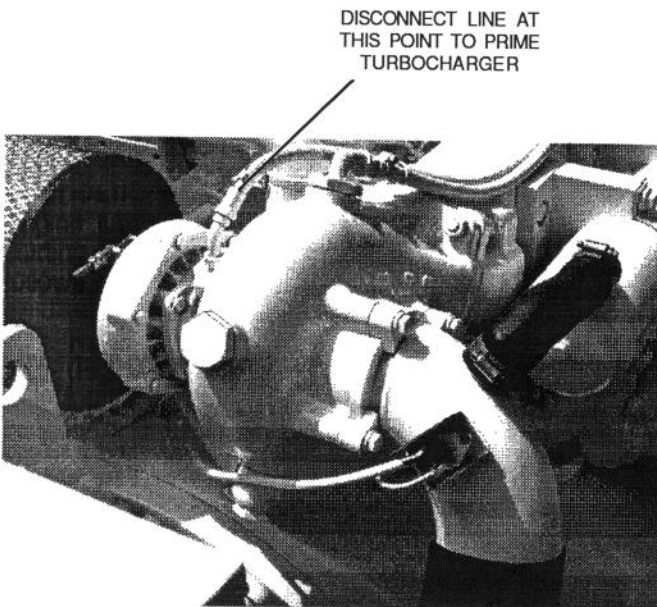

FIGURE 3-9. PRIMING TURBOCHARGER
1. Remove oil inlet line from turbocharger housing (Figure 3-9), fill bearing housing with clean engine lubricating oil; replace line, secure.